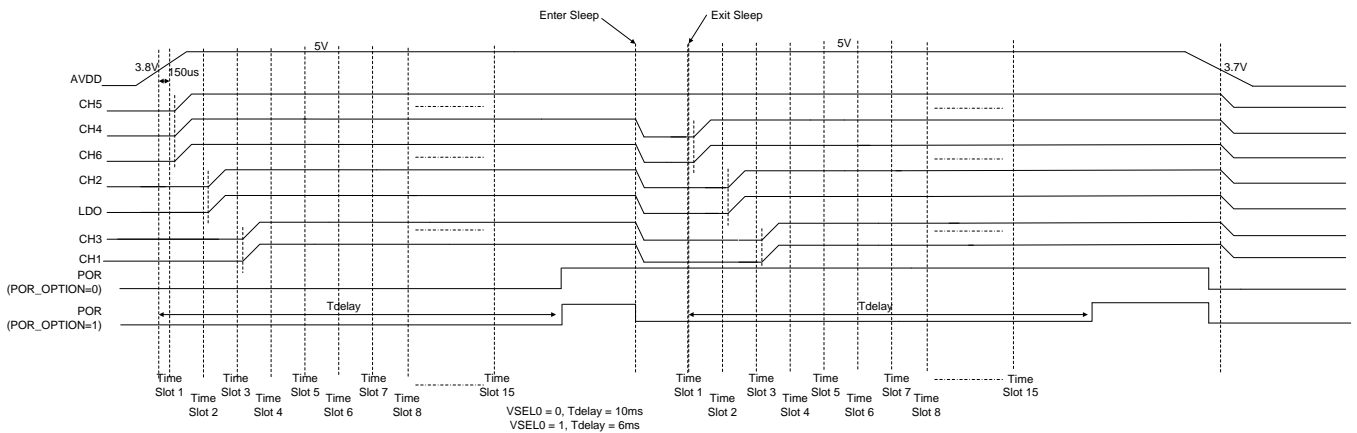
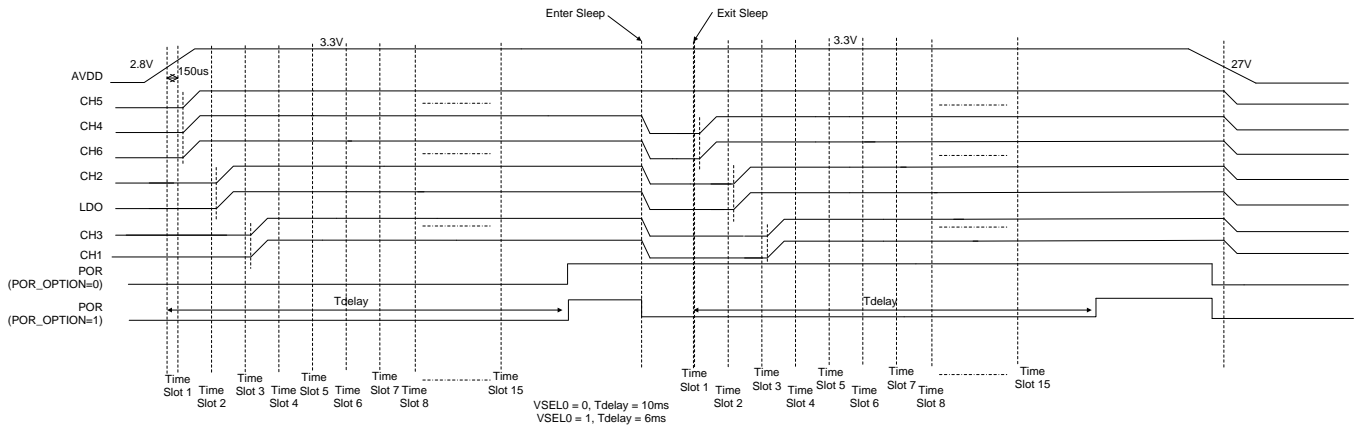

Figure 7. For example : Power On/Off Sequence and Sleep Off / Wake up Sequence with Different POR_OPTION on $V_{IN} = 5V$
Figure 8. For example : Power On/Off Sequence and Sleep off / Wake up Sequence with Different POR_OPTION on $V_{IN} = 3.3V$
The RT5045A starts a power up sequence when AVDD > UVLO rising threshold voltage, and the device shuts down with AVDD < UVLO falling threshold voltage. The RT5045A applies sleep mode of PMIC to save power consumption with setting the SLEEP bit of SLEEP_REG to 1. If the device goes to sleep mode, power rails are set to LPM and the alive rails depend on sleep mode control register setting. The power rails will exit from LPM to normal mode and wake up with a sequence as the same as the power-up-sequence when SLEEP bit = 0. The relations of all power rails of RT5045A and sleep off / wake up sequence with different POR_OPTION on $V_{IN} = 3.3V$ are shown as following Figure 7. The relations of all power rails of RT5045A and sleep off / wake up sequence with different POR_OPTION on $V_{IN} = 5V$ are shown as following Figure 8.
► An example of PCB layout guide is shown in Figure 7.for reference.